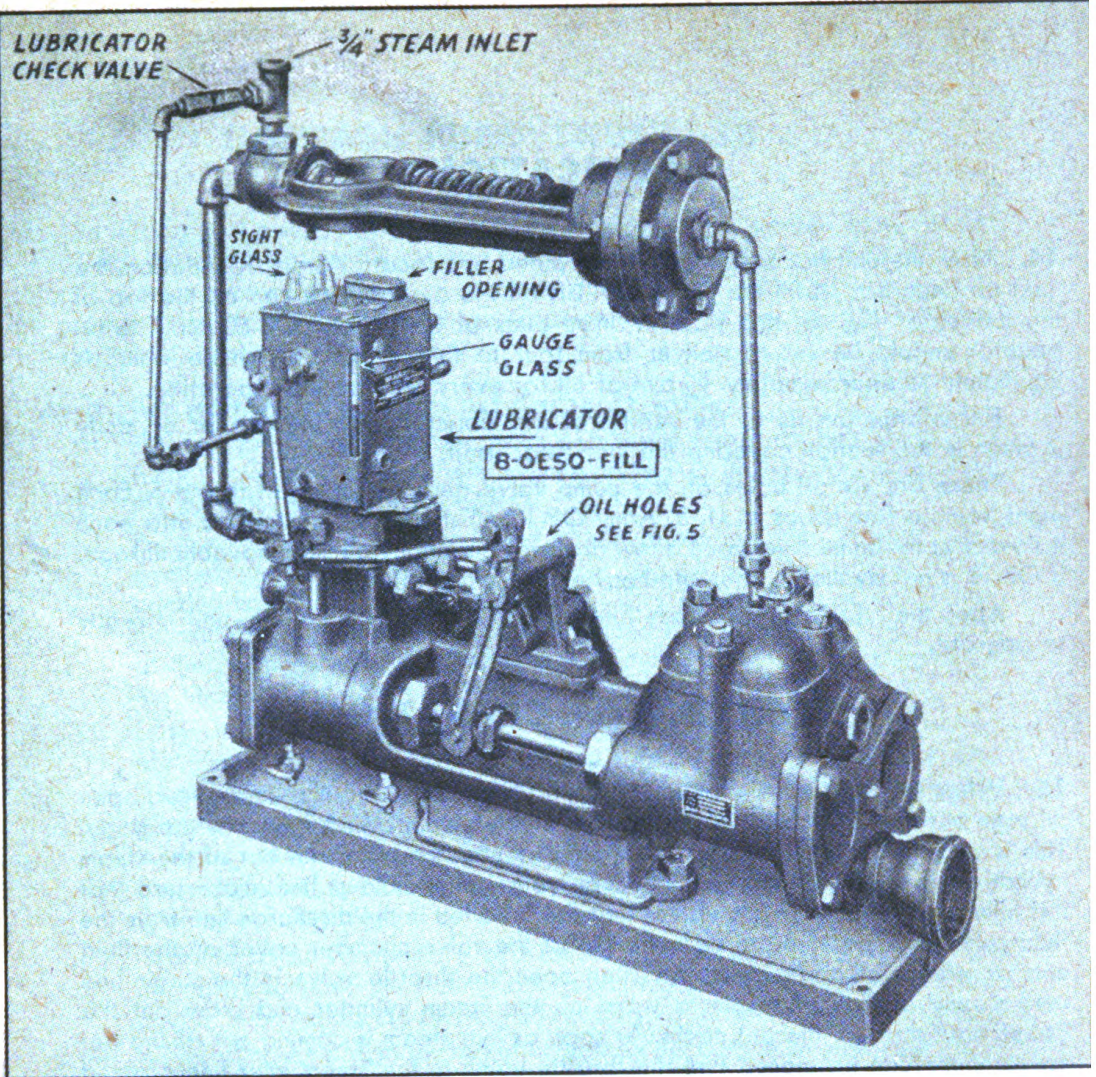

Fig. 4—Lubricator Details
14. After the unit has been completely piped and located on its foundation, the next procedure is to fill the lubricator. Lift off the oval-shaped cap on the top of the lubricator (fig. 4), and pour in three pints of U. S. Army OE-50 oil. The lubricator should be set to deliver from four to five drops per minute which is equivalent to approximately $\frac{1}{2}$ pint of oil for every ten hours of operation.
While the pump is in operation, the only care necessary is that of lubrication, shown on page 9, figure 4 and 5. The piston rods do not require any lubrication as they are sufficiently lubricated by the water in the fluid cylinder and by the oil introduced into the steam cylinder by the lubricator.